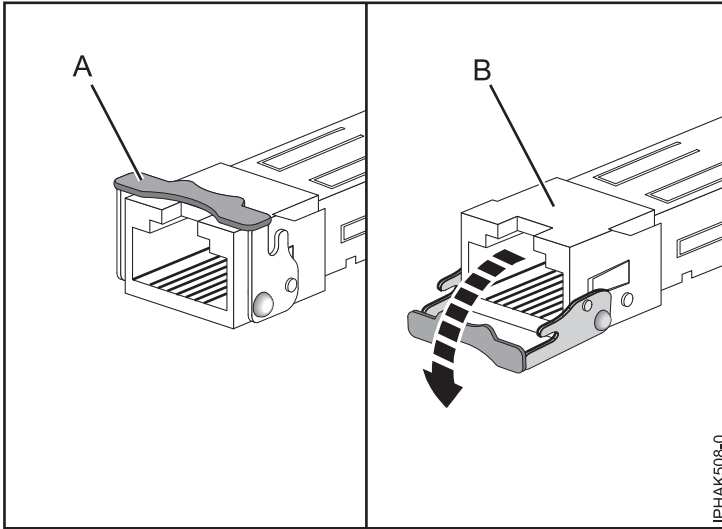

Figure 30. Removing SFP transceivers from adapters
- b. Open the latch (A) by rotating it down and away from the card as shown in Figure 30 on page 46.
- c. Slide the transceiver (B) out of the adapter hardware.